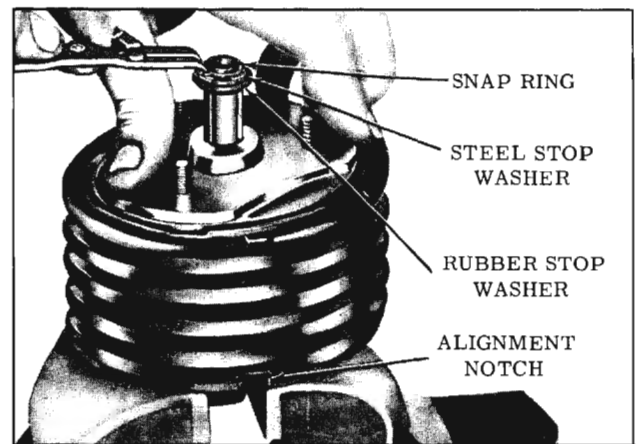

Fig. 7-123 Snap Ring Removal
6. While holding mounting hub and bellows down against return spring, remove retaining ring, steel stop washer and rubber stop washer from guide sleeve. CAUTION: Use care to avoid damaging retaining ring by opening too wide. (Fig. 7-123)
1. Clamp valve housing in padded jaw vise so that alignment notch is visible. (Fig. 7-123)
- Still holding mounting hub assembly down against return spring, place rubber stop washer, then steel stop washer, over guide sleeve. Install retaining ring, being sure it is seated properly in its groove. Refer to Fig. 7-123.